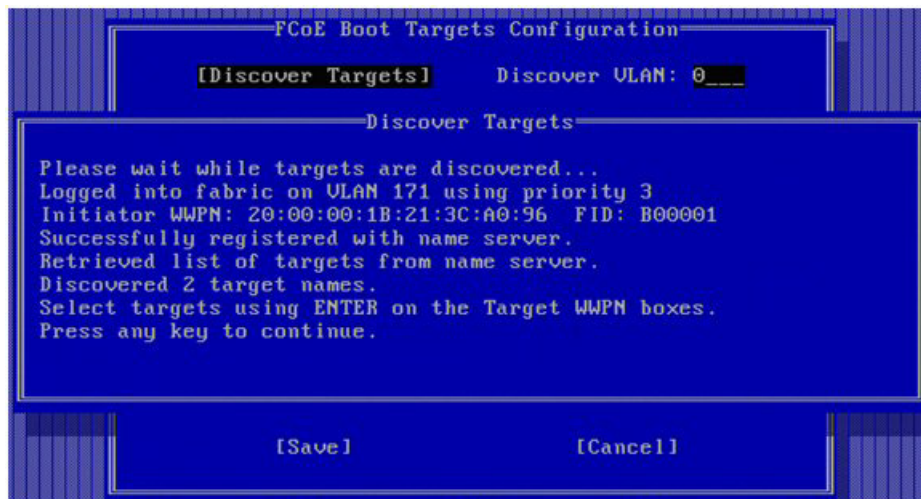

Figure 39 Discovering the remote device
5. When you are finished, press **Save** as shown in Figure 39.